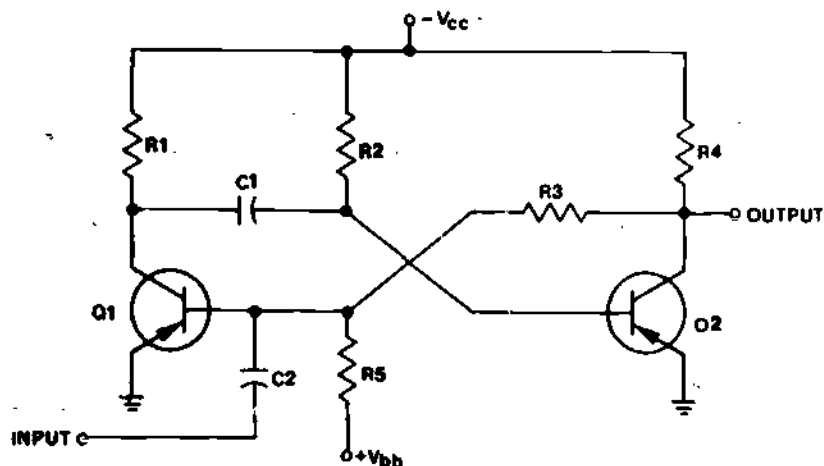

Figure 2
2. The schematic for the monostable multivibrator (also known as the one-shot) is shown in Figure 2.